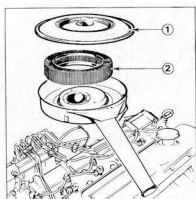

Fig. 12 Paper Element Air Cleaner
1. Remove the top cover from the air cleaner and take out the paper element (Fig. 12). Shake out and replace. Renew if necessary.